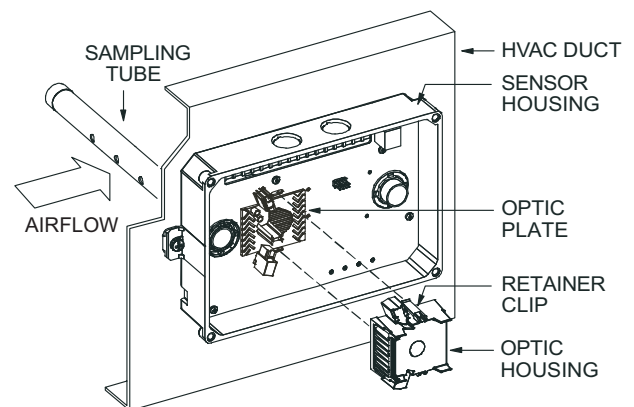

Fig. 18 — Sensor Cleaning Diagram
1. Disconnect power from the duct detector then remove the sensor's cover (see Fig. 18).